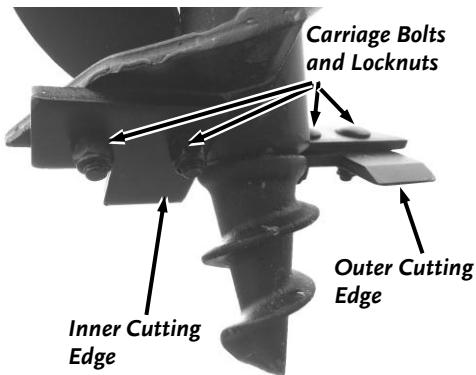

Figure 16
2. Remove the two Carriage Bolts and Locknuts that secure each Cutting Edge to the Auger using a 9/16" Wrench (**Figure 16**).
3. Position the new Cutting Edge on the underside of the Auger with the Beveled Edge facing up (**Figure 16**). Reinstall the two Carriage Bolts and Locknuts and tighten them using a 9/16" Wrench.